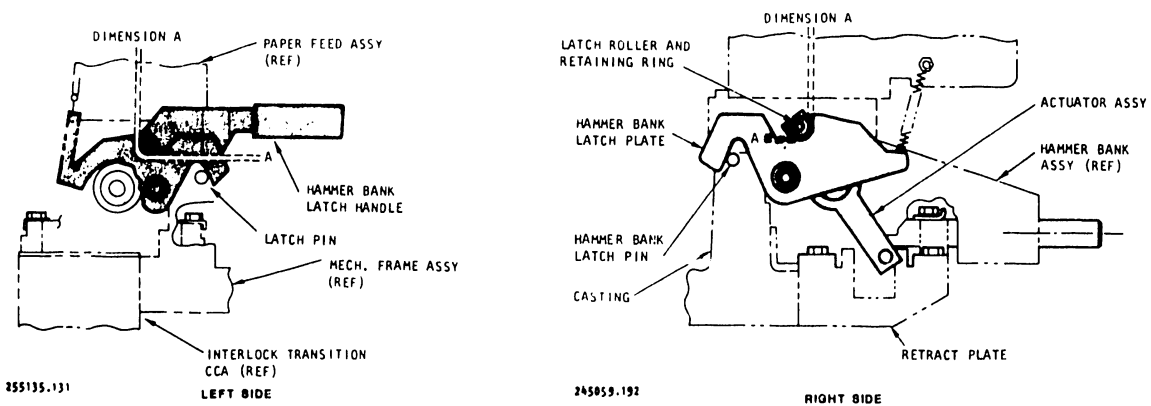

Figure 3-46. Hammer Bank Latch and Pin Assembly Adjustment
- j. Adjust the hammer bank latch mechanism so that an equal gap is maintained between the top and bottom of the upper latch handle roller and the hammer bank latch (see Dimension A on figure 3-46).
- m. Recheck to ensure that Dimension A illustrated in figure 3-46 is to specifications.